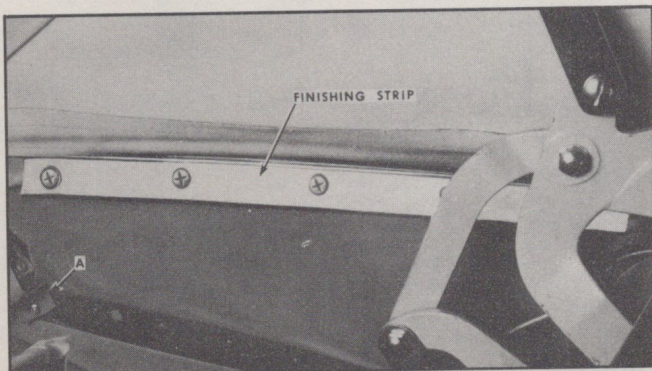

Fig. 5 Sealing Rear End of Drain Trough
6. Place a ball of 3M Body Caulking Compound at the rear end of the drain trough at "A" in Fig. 5 to prevent water draining out the end of the trough.